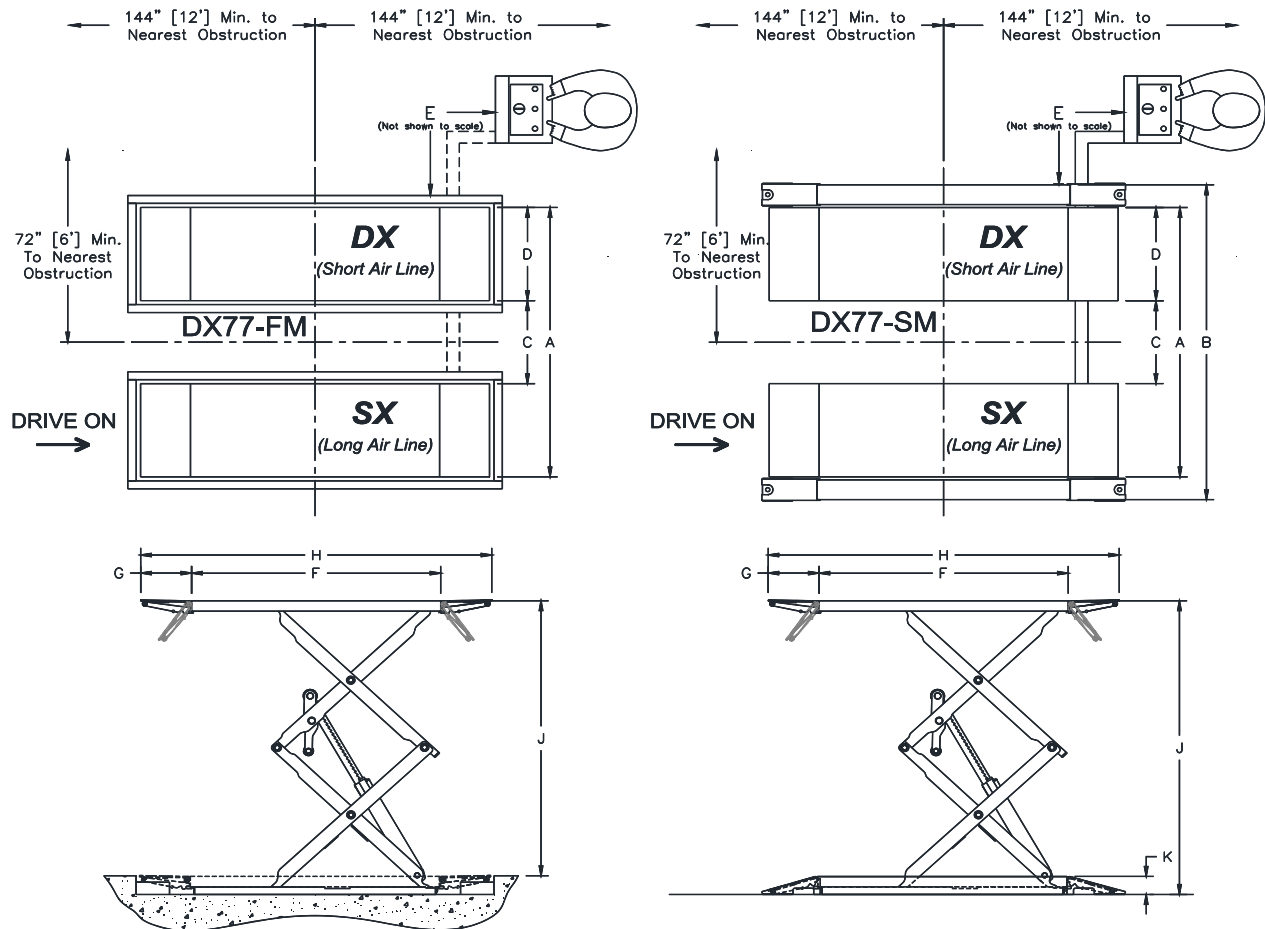

Fig. 1 - General Specifications
- 1) Layout the service bay according to the architect's plans or owners' instructions (*see Fig. 1*). **Failure to install in this orientation can result in personal and property damage.** Be certain that the proper conditions exist, see page 3.